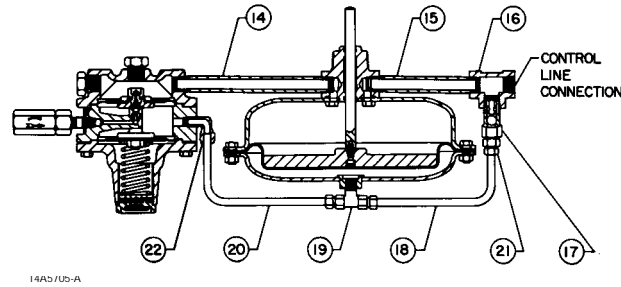

Figure 19. Type 61LD Pilot and Type 1806 Relief Valve Mounting
2. Access to all internal parts except the stem O-rings, bearings and wiper (keys 6, 56, 57) may be gained without removing the bonnet (key 3) or upper diaphragm case (key 2) from the main valve or the pilot(s) from the bonnet pipe nipple (key 23, figure 15, or keys 37 and 39, figure 16). Disconnect the loading tubing (key 24, figure 15, 16, or 17) from the actuator elbow fitting (key 25, figure 15, or key 41, figure 16), and with a Type 61LD pilot also disconnect the relief tubing (key 18, figure 19) from the fitting tee.